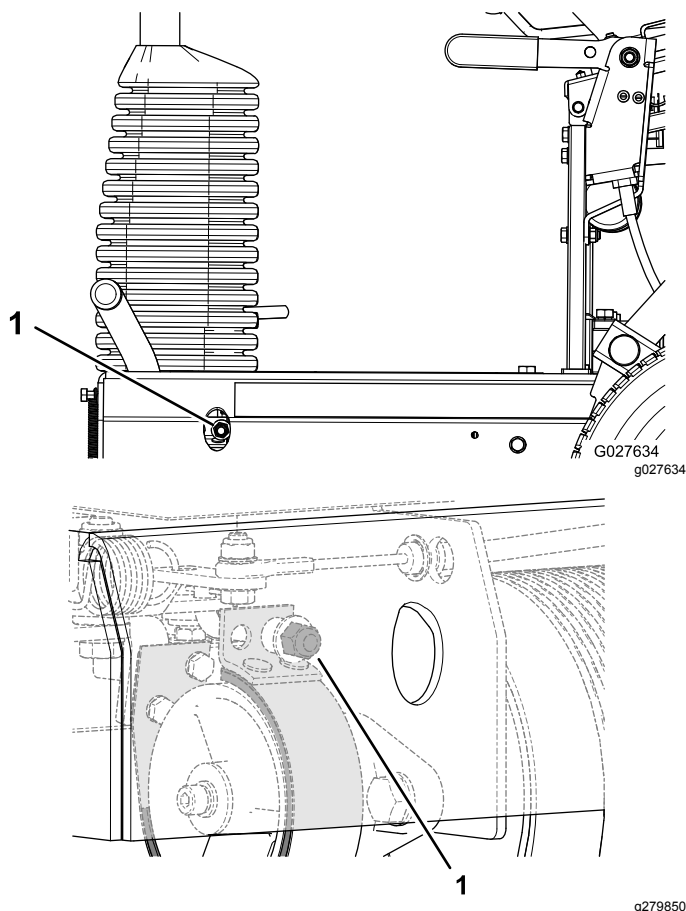

Figure 34
- To increase the brake force, rotate the brake locknut clockwise (Figure 34).
- To decrease the brake force, rotate the brake locknut counterclockwise (Figure 34).